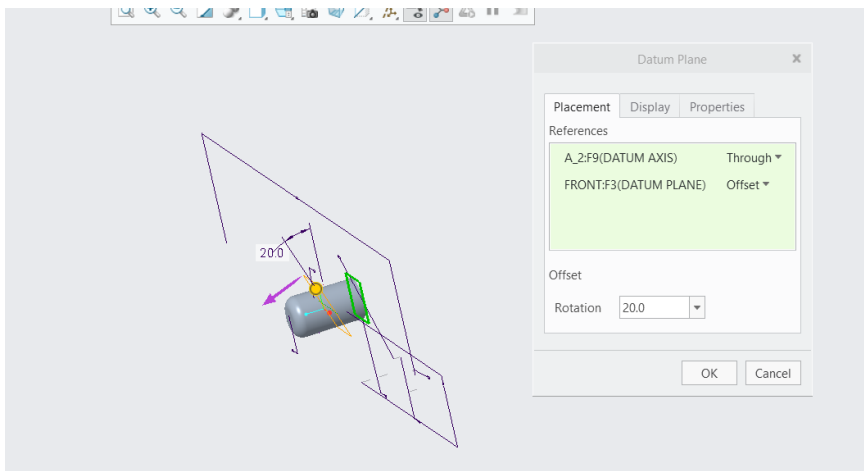

fig2.2
- Make an angular plane at angle of **20** as shown in fig2.2.